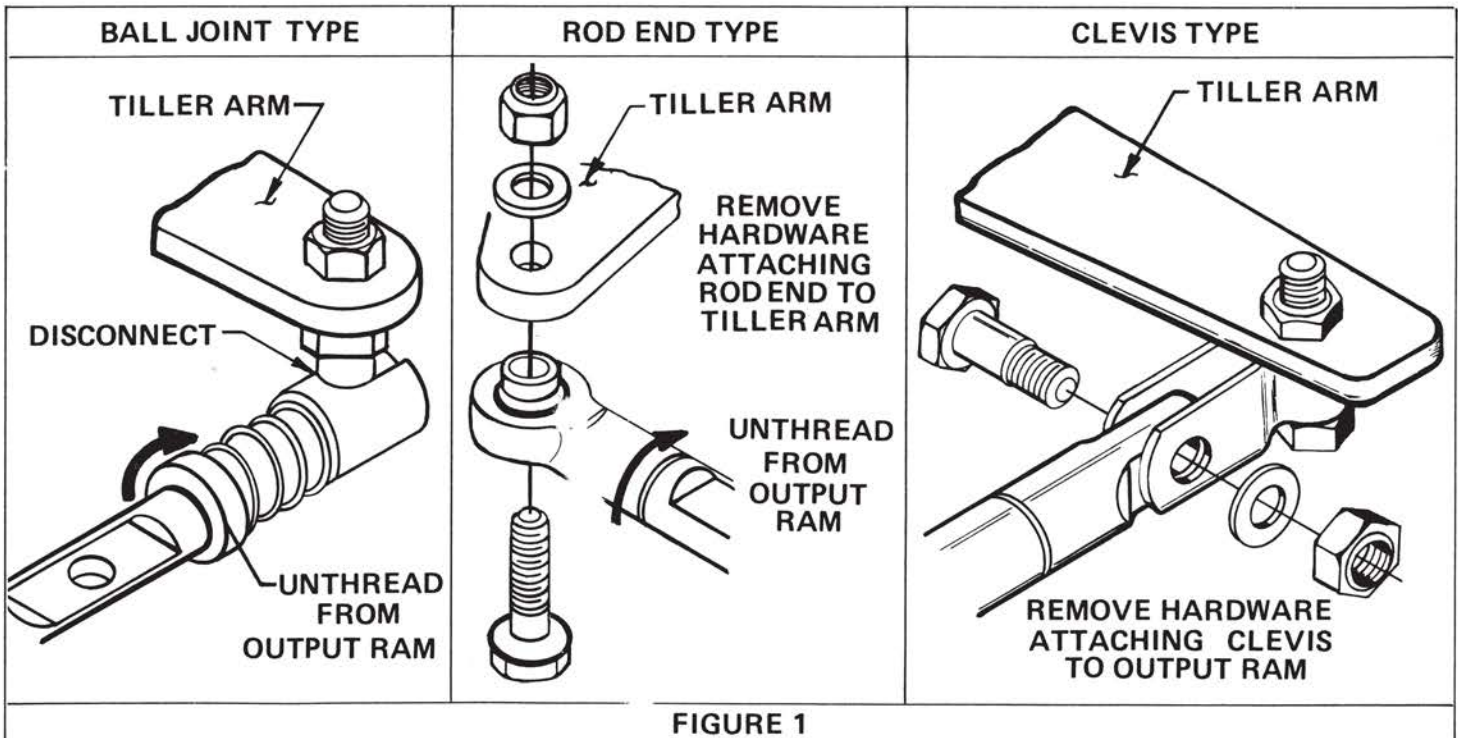

FIGURE 1
1. Disconnect attachment to Tiller Arm and Telescopic Output ram as shown in Figure 1.
1. Reassemble Ball Joint, Rod End, or Clevis as applicable, using hardware saved at disassembly (see Figure 1) reversing the order for assembly. If these parts show signs of corrosion replace them.